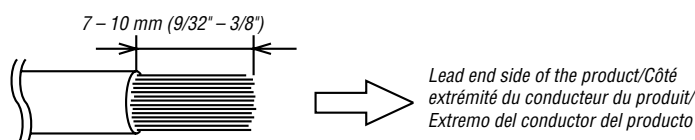

Fig. 7
2. Remove the insulation from the ends of the wire leads by about 7 – 10mm (9/32" – 3/8"). (Fig. 7)
2. Retirer l'isolation des bouts des fils de connexion de 7 – 10mm (9/32" – 3/8"). (Fig. 7)
2. Quite aproximadamente 7 – 10mm de aislación de los extremos de los alambres. (Fig. 7)